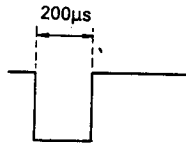

Figure 59.
3. Selecting (+) sync slope with the oscilloscope, adjust R2014 to meet the requirement given in Figure 59.